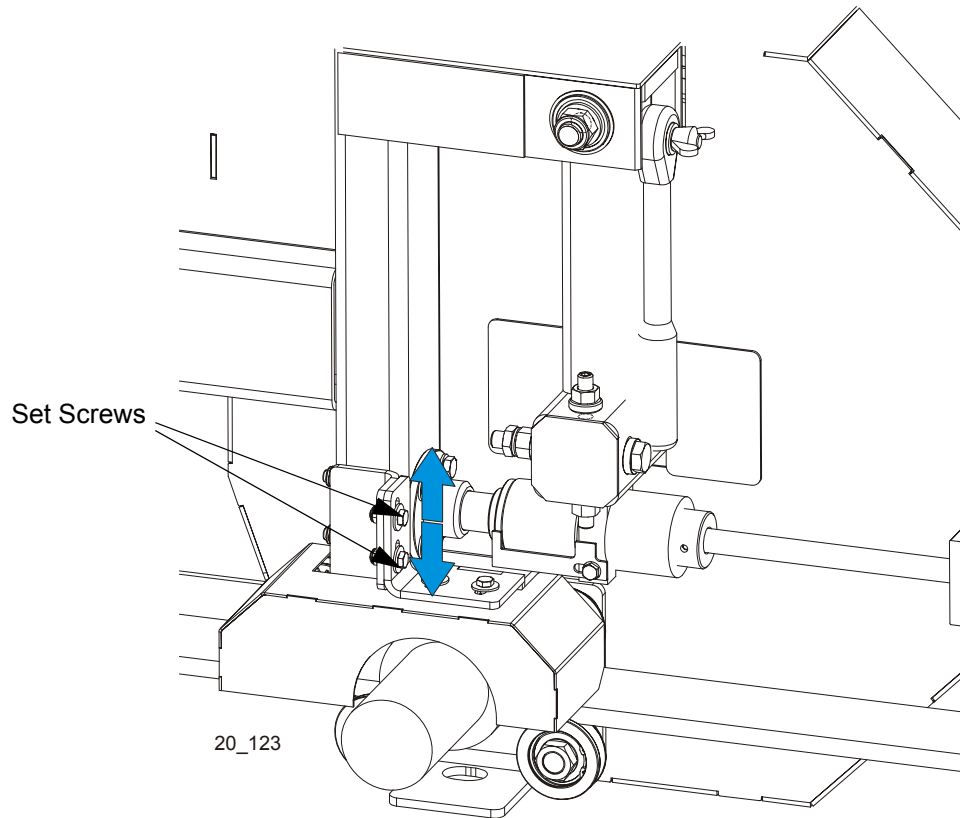

FIG. 5-16
**See Figure 5-16.** Loosen the two set screws. Move the bracket with motor down to